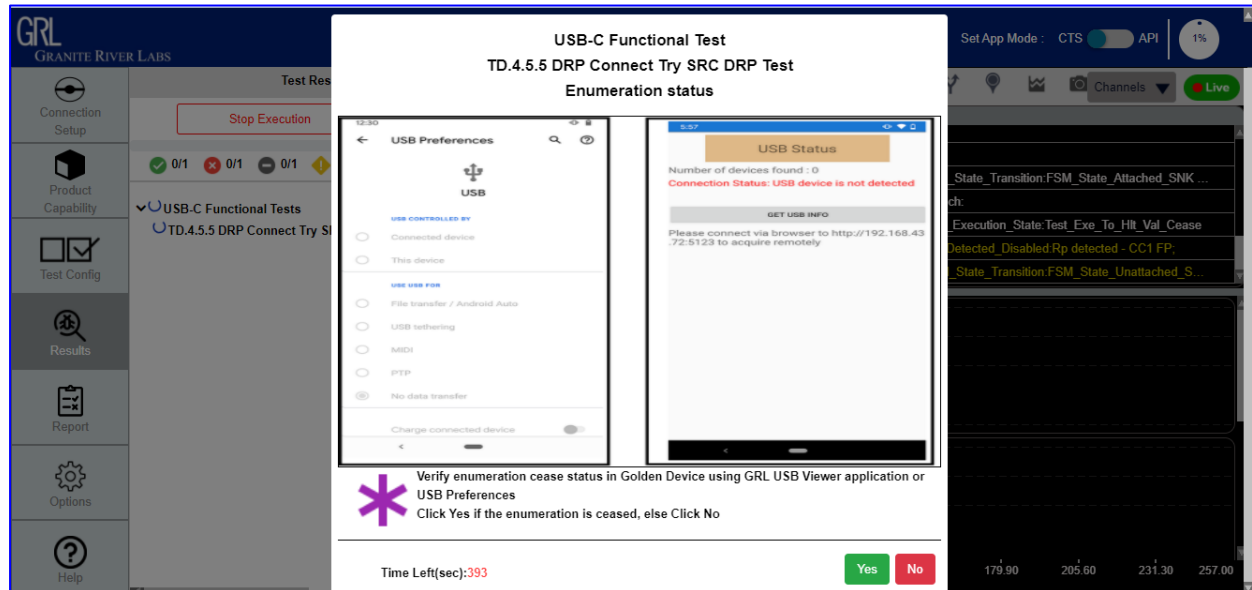

FIGURE 5.14: VERIFY ENUMERATION STATUS OF GOLDEN DEVICE #2
7. If the golden device is enumerating correctly, the next following screen will appear (Figure 5.14) to verify if the enumeration has been ceased. If so, click "Yes" to proceed or otherwise click "No".